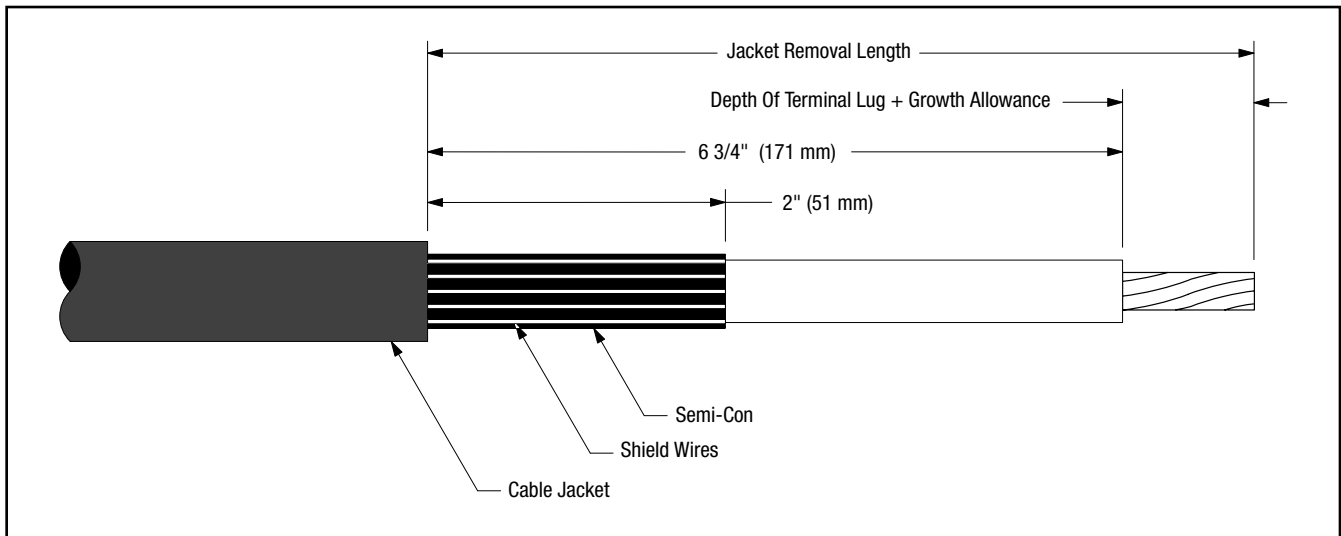
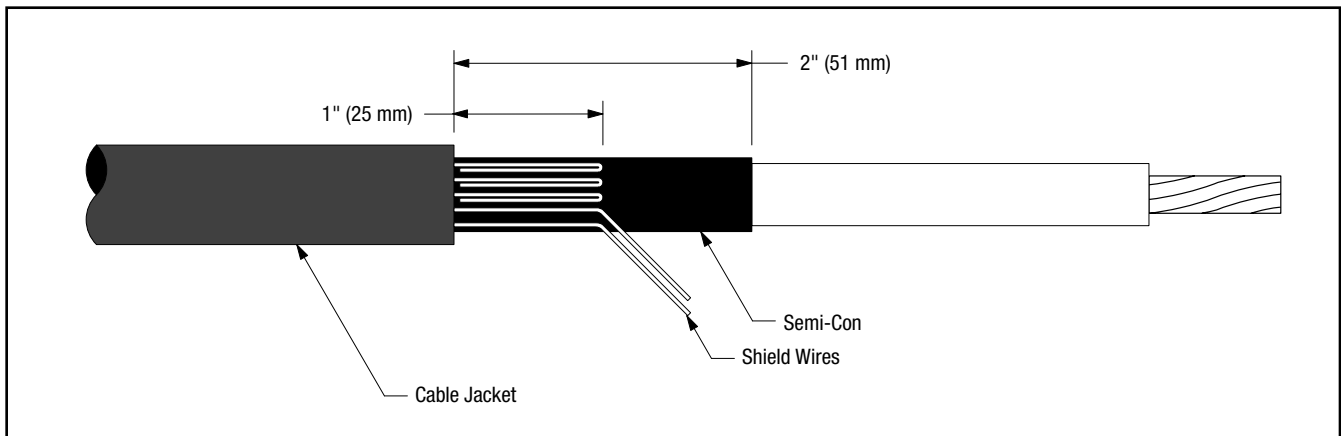

Figure 8
Figure 9
7.2 Prepare cable using dimensions shown in *Figure 8* and *Figure 9*. **BE SURE TO ALLOW FOR DEPTH OF TERMINAL LUG.**
7.3 Bend leading 1" (25 mm) of exposed shield wires back upon themselves to jacket edge (*Figure 9*).